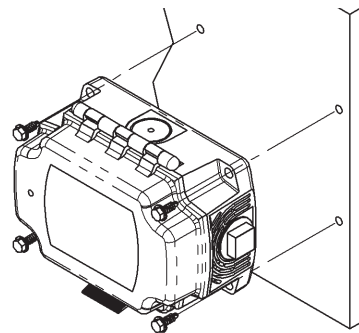

Fig. 2: Rough Service Unit mounting
1. Mount the unit on a solid, non-vibrating surface 3 to 5 feet above floor level. Mount in a horizontal orientation with the enclosure hinge at the top as shown in Fig 2. Failure to do so may degrade the life of the sensor element. Do not mount near supply or return diffusers.